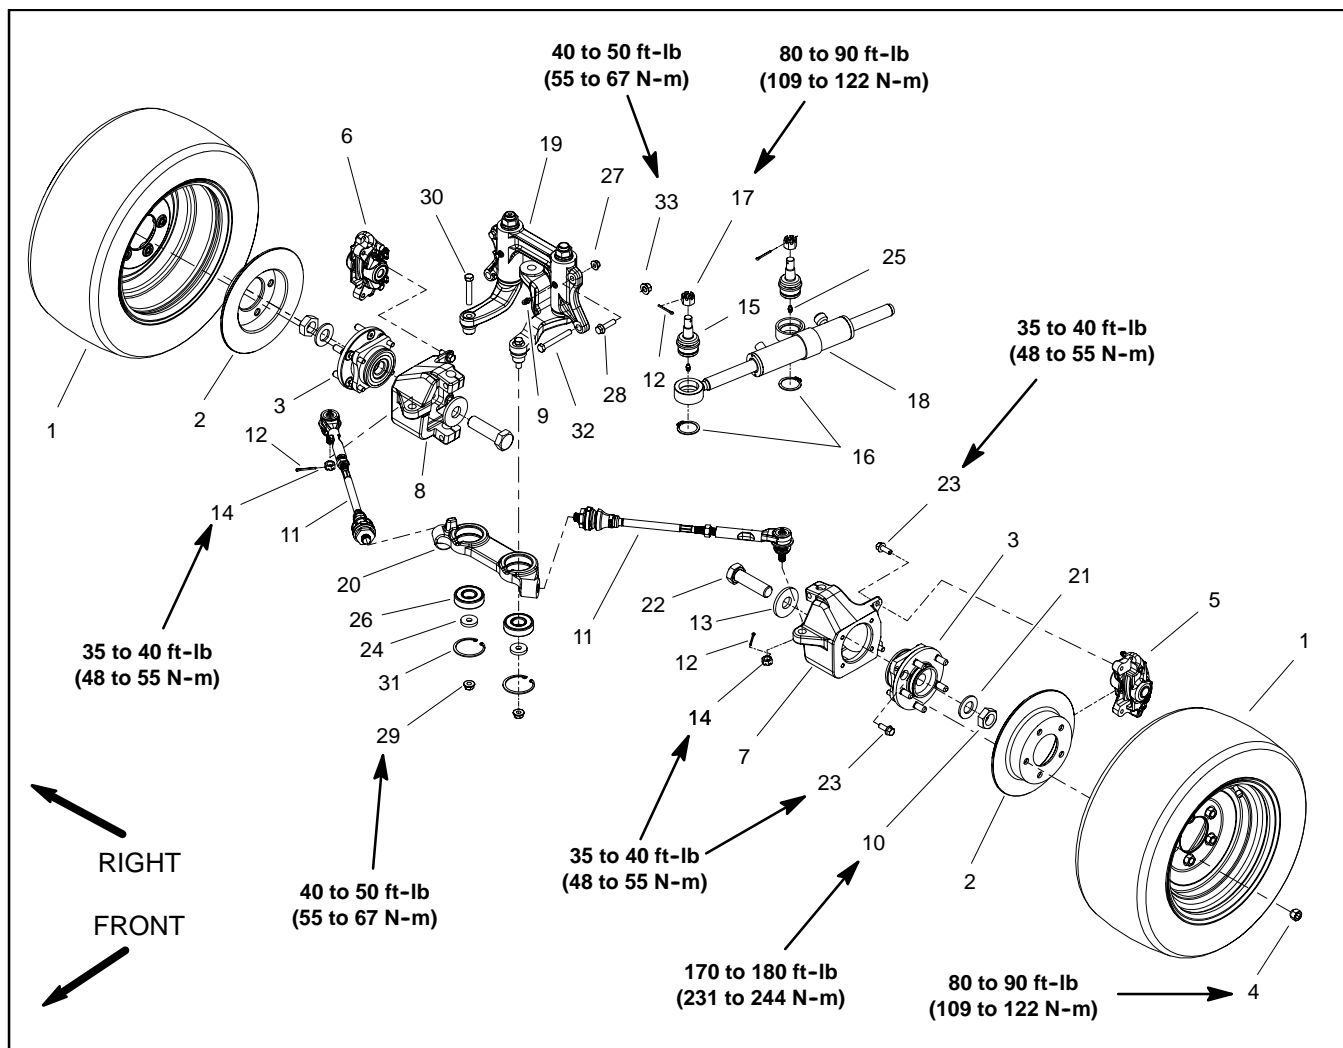

Figure 40
Removal (Fig. 40)
4. Remove steering cylinder from vehicle using Figure 40 as a guide.
Installation (Fig. 40)
2. Install steering cylinder to vehicle using Figure 40 as a guide.